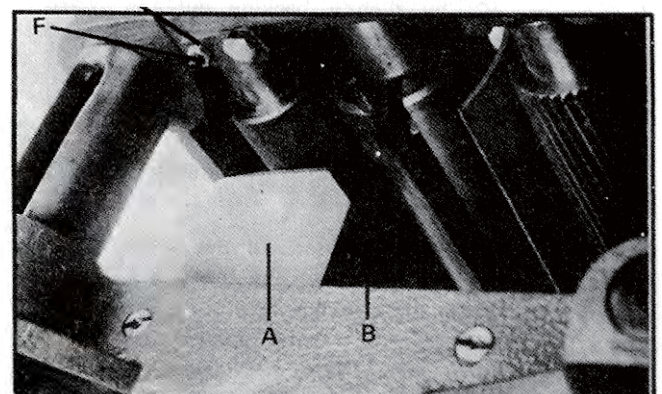

Fig. 31
4. Move the gage block (A) Fig. 31, under one end of the outfeed roll (B) as shown. The bottom of the outfeed roll (B) should just touch the top of the gage block (A). If an adjustment to the outfeed roll is necessary, loosen locknut (E) and turn screw (F) until the feed roll just touches the gage block. Then tighten locknut (E) Fig. 31.